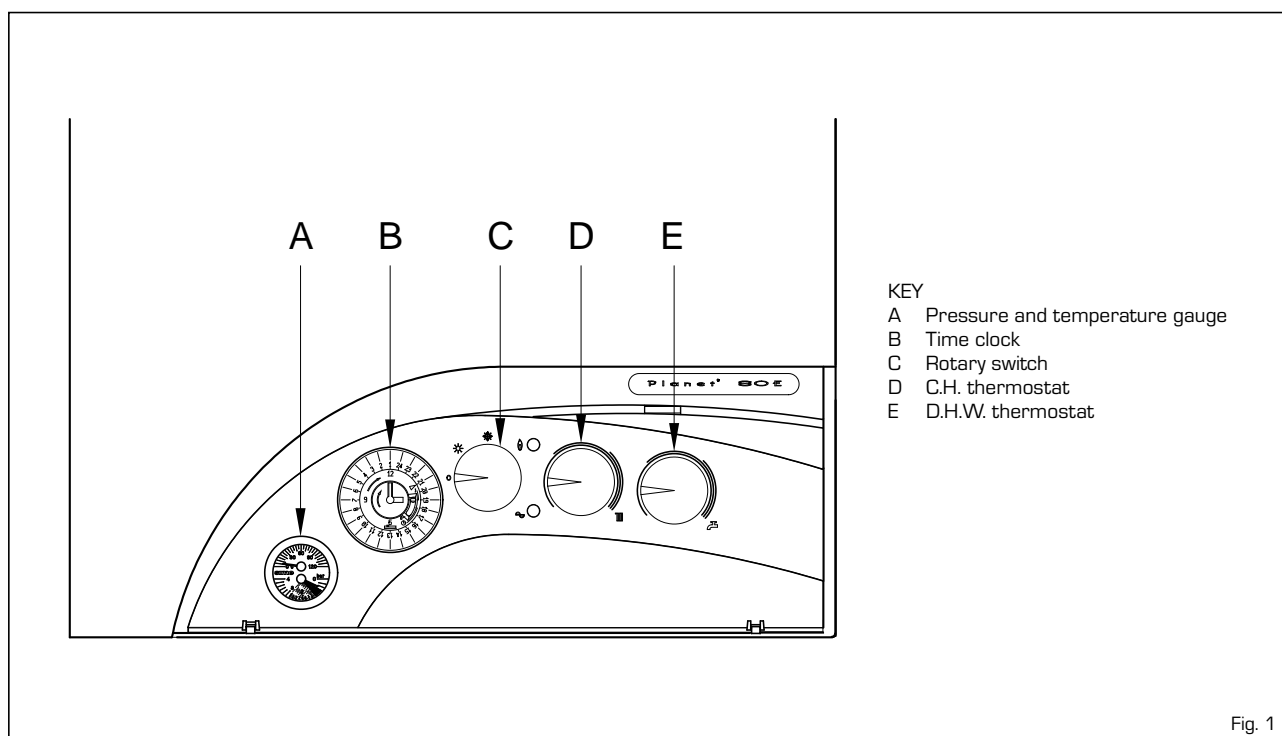

Fig. 1
1.3.1 To light the appliance (see fig. 1)
- Turn the rotary switch (C) to SUMMER (water only) position "☀".
- Switch on the electricity supply and full open any D.H.W. tap. The burner will light. Check that the burner has lit by looking through the viewing window (F). If the burner fails to light, turn the rotary switch to "🔥" position and release it immediately; then turn it to the SUMMER position: the burner should now light. Turn off the tap.
- Check that the room thermostat and time clock are calling for heat. Turn the heating potentiometer (D) to maximum (fully clockwise).
1.3.2 To turn the appliance off (see fig. 1)
The gauge (A fig. 1) on the fascia panel indicates the approximate system pressure. If the normal running pressure is seen to decrease over a period of time there is a water leak and you should consult your installer or service engineer.